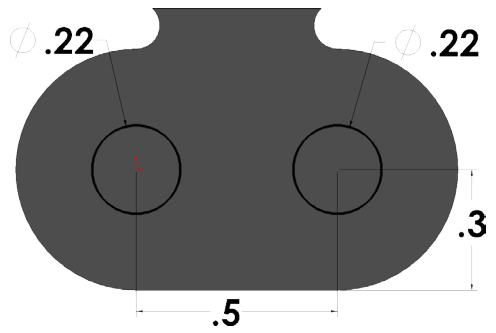

Fig. 12
Step 5. Click **Smart Dimension**  (S) on the Sketch toolbar.
Step 6. Dimension as shown in **Fig. 12**.